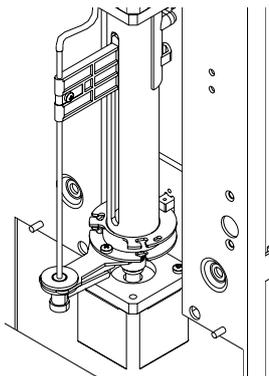

Figure10-44
5. Press [↑] to move the sample probe to its highest position, as Figure10-44 shows;